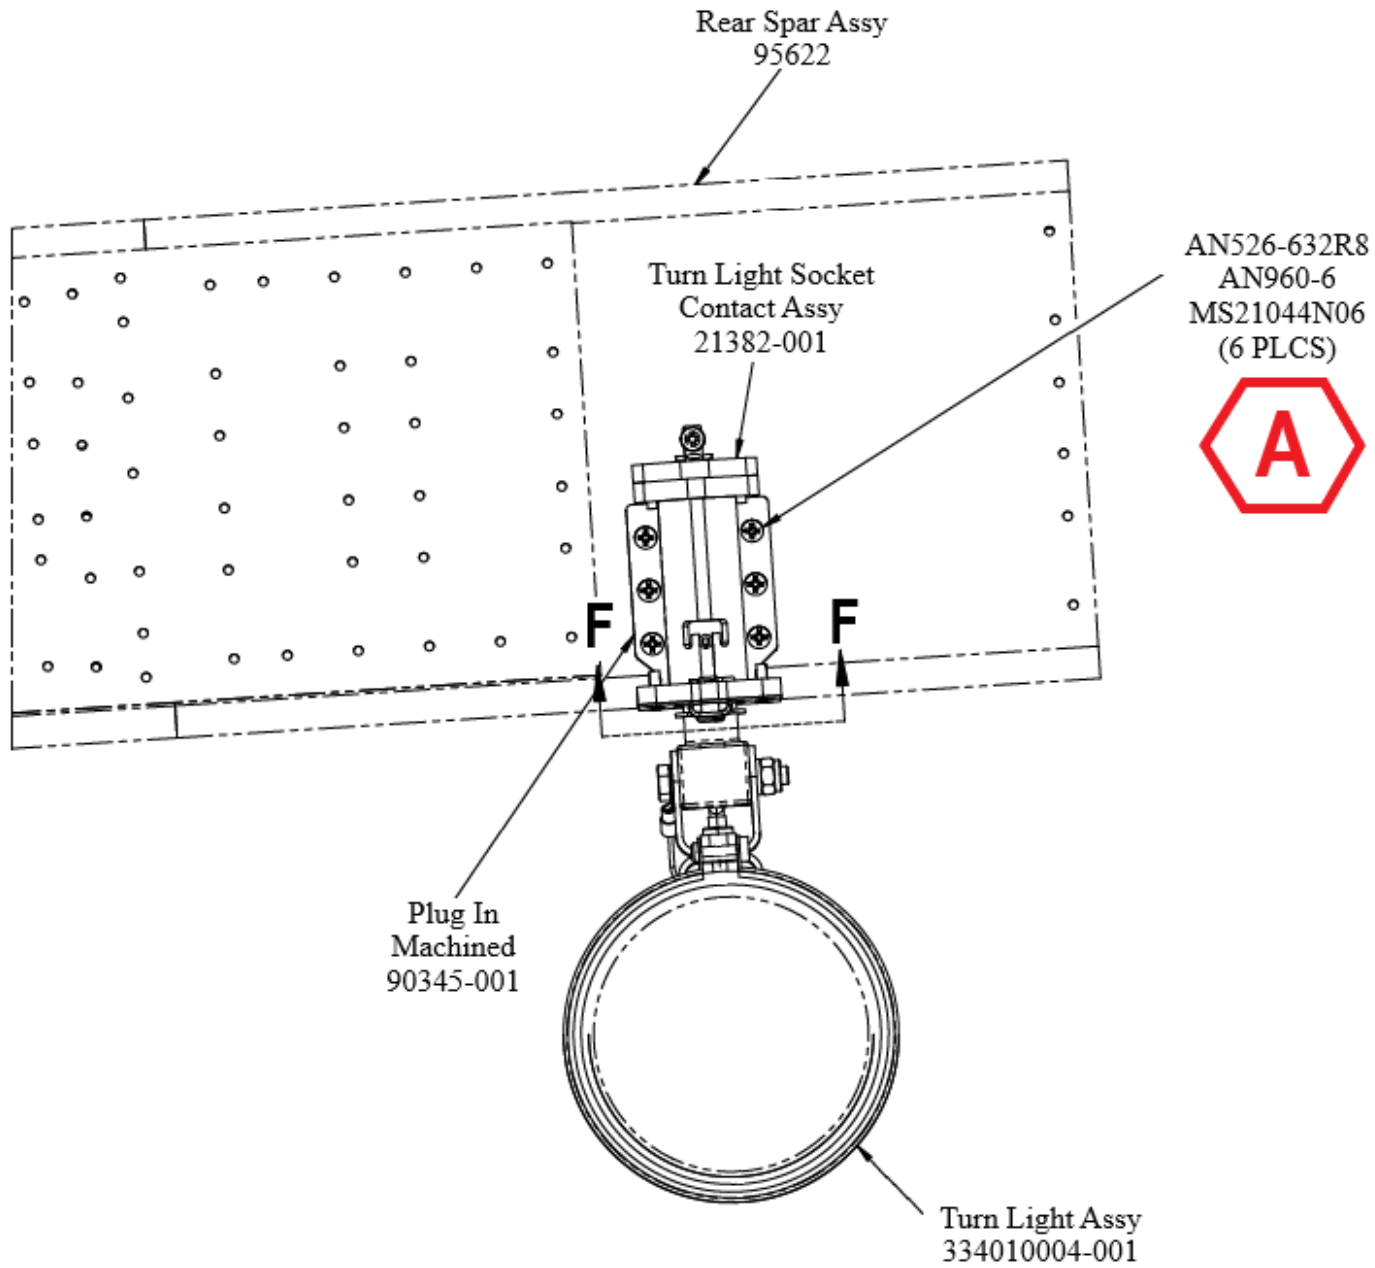
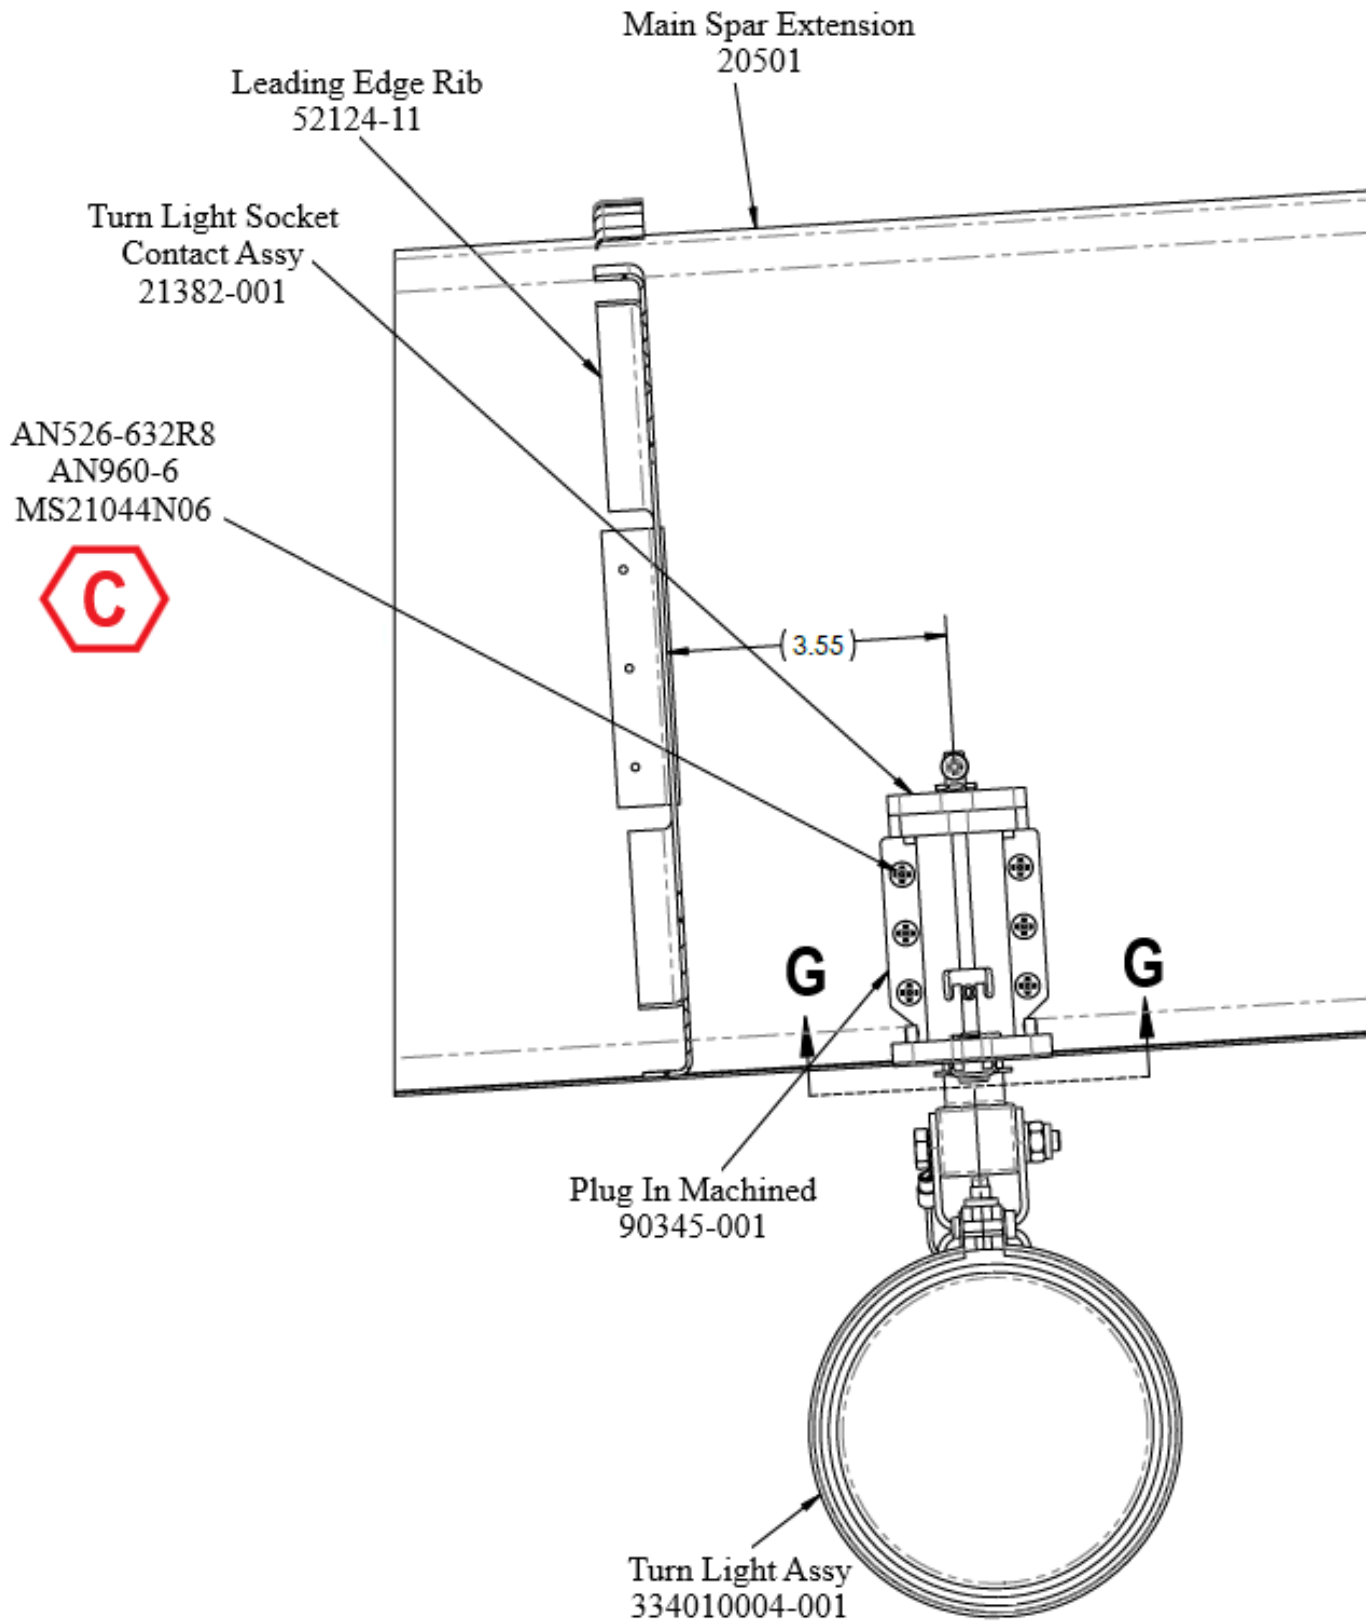
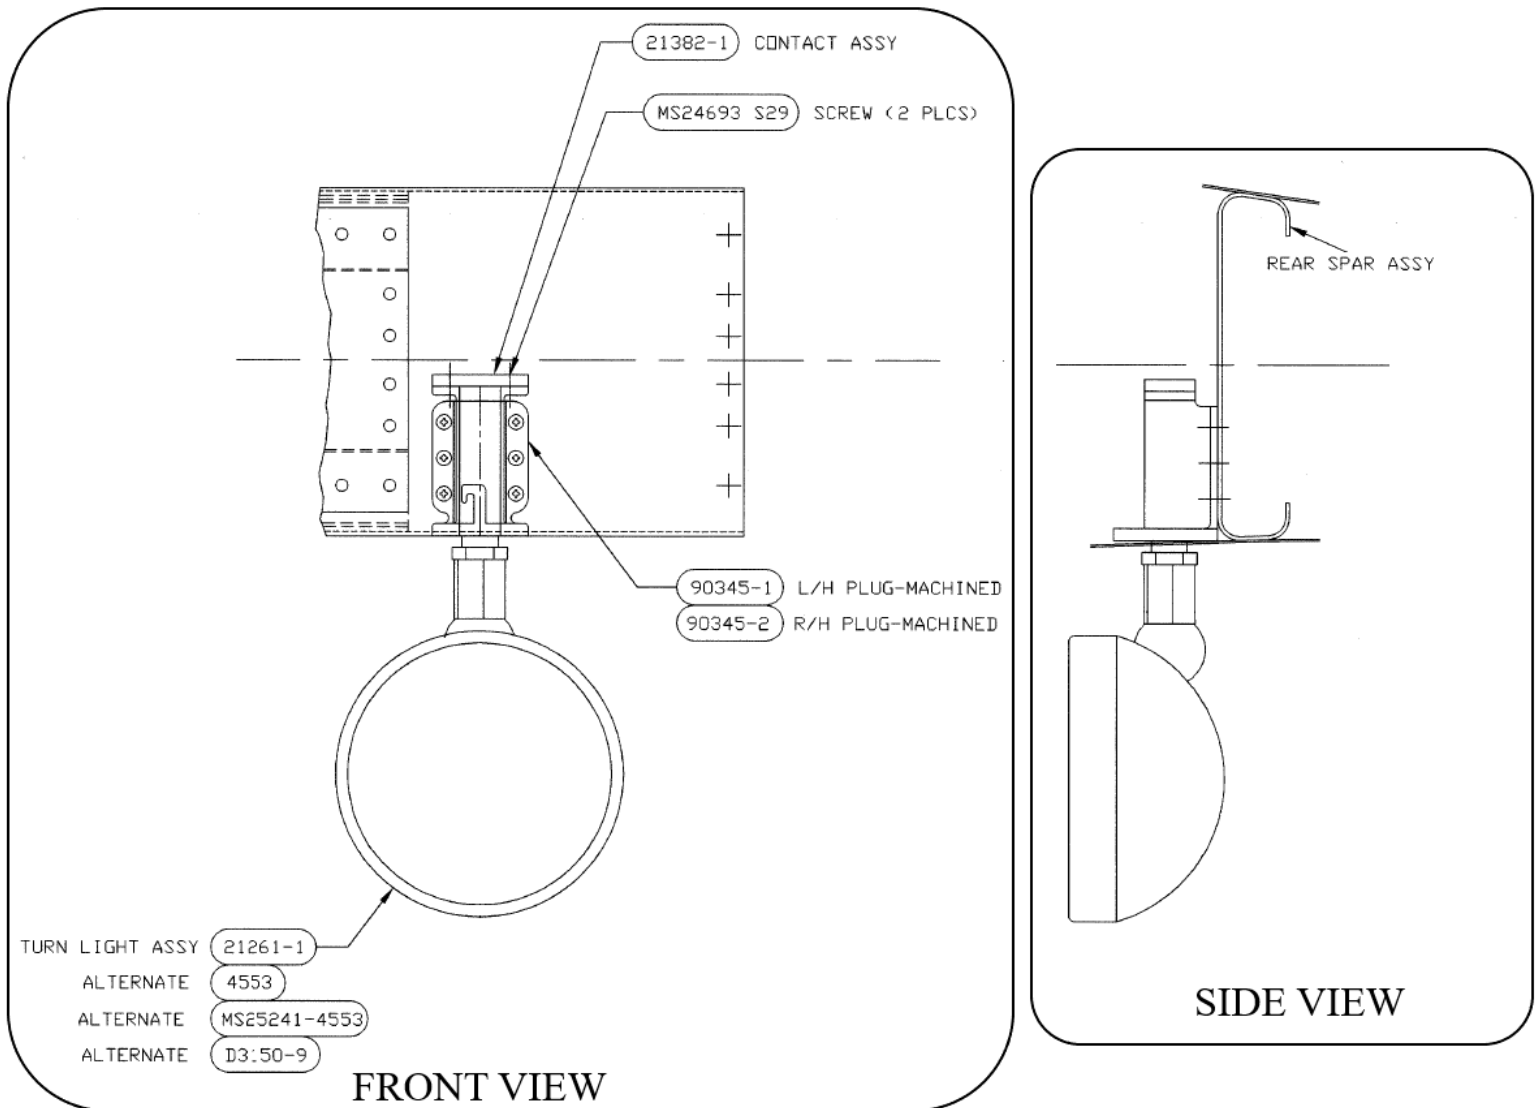

Figure 2: T660 Turn Light Intallation
Figure 4: Turn Light Installation for H80, G10, T34 or T65HG
Figure 10: Old Turn Light Assembly
4. Drill 0.169 inch holes to match the Plug In Machined 90345-001. Refer to Figure 2, section A.
8. Drill 0.169 inch holes to match the Plug In Machined 90345-001. Refer to Figure 4, section C.
3. If aircraft is a T660, remove old Turn Light Assembly on right wing, as shown in Figure 10 (21261-1, 4553, MS25241-4553 or D3 50-9). Install new Turn Light Assembly 334010004-001 on Rear Spar Assembly 95622 (Refer to Figure 2). Repeat this step for the left wing.
4. If aircraft is a H80, G10, T34 or T65HG; remove old Turn Light Assembly on right wing, as shown in Figure 10 (21261-1, 4553, MS25241-4553 or D3150-9). Install new Turn Light Assembly 334010004-001 on Main Spar Extension 20501 (Refer to Figure 4). Repeat this step for the left wing.